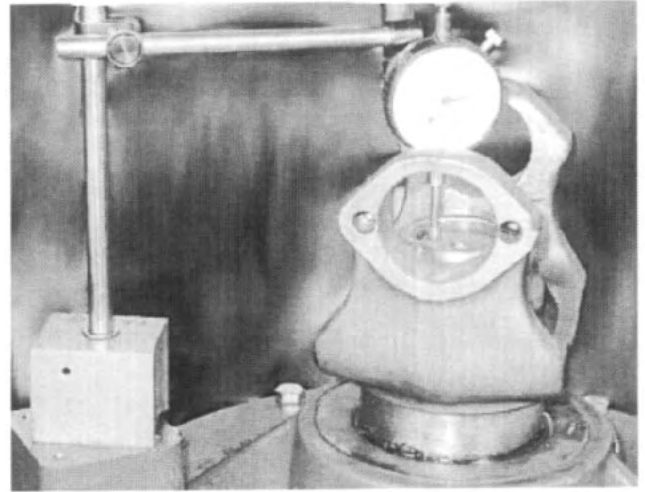

Fig. 73
15. Turn the transfer case over. Attach a dial indicator onto a flat area of the rear carrier, adjacent to the rear output shaft yoke. Check the end float on the rear output shaft. The end float should read: **0.003-0.008 loose**. *See Fig. 73.*